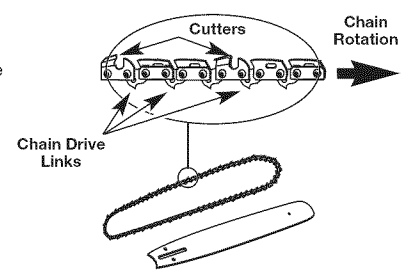

Fig. 36
1. Lay out the new saw chain in a loop and straighten any kinks. The cutters on the top of the guide bar should face toward the guide bar tip in the direction of chain rotation (Fig. 36). If they face backward, turn the loop over.
NOTE: Make sure the chain is correctly installed and the cutters are facing in the correct direction (Fig. 36).